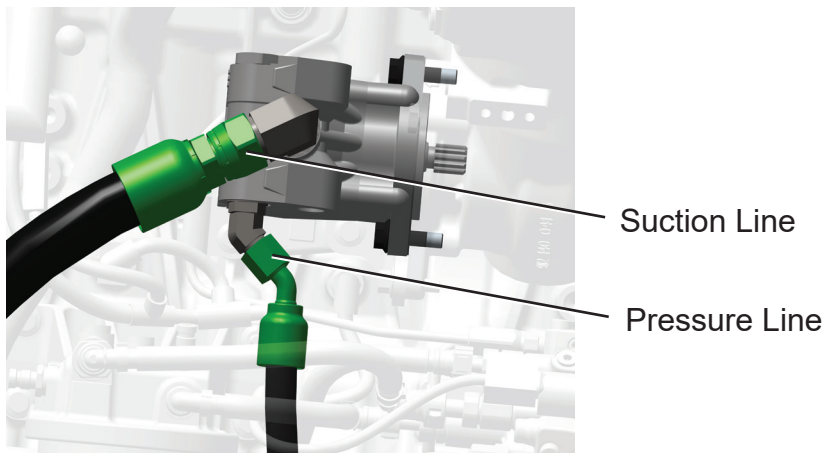

Figure 7
15. Install new pump (A000H951) with gasket (1694630) on engine air compressor, see Figure 7.
17. Secure pump to air compressor with two M10-1.5 flanged hex screws, see Figure 7. Final tighten screws to 35 ft. lbs.
18. Reconnect pump pressure line to power steering pump, see Figure 7. Final tighten to 45 ft. lbs.
19. Reconnect pump suction line to power steering pump, see Figure 7.